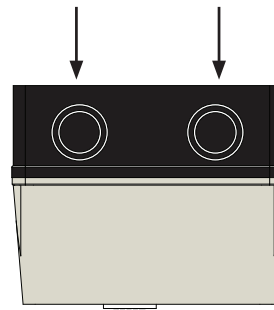
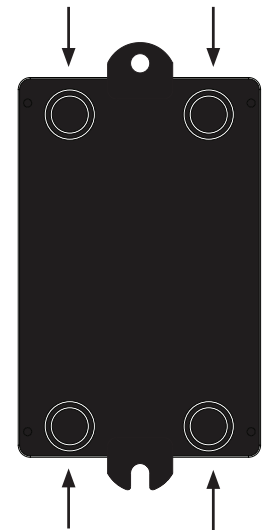

FIG. 3a
FIG. 3b
- 3** Remove two punch outs to feed wires through. There are eight punch outs available from the top, bottom, or back of the starter [FIG 3a] [FIG 3b].